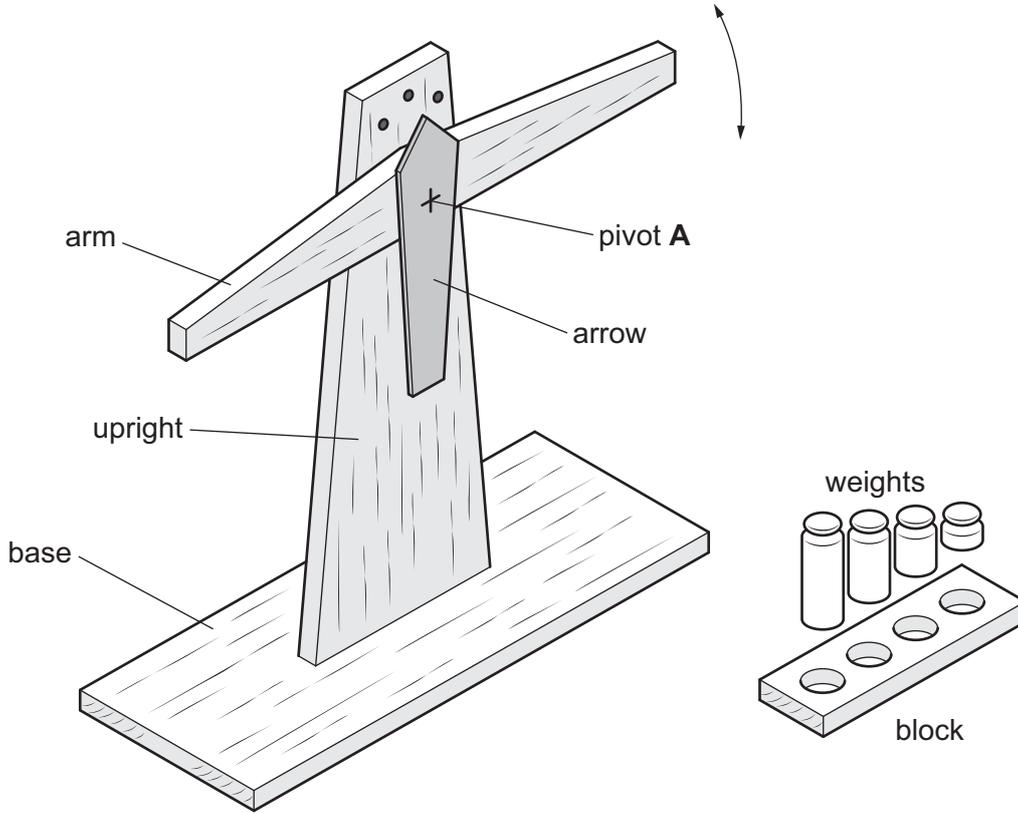

Fig. 11.1
- 11 Fig. 11.1 shows an incomplete design for scales and weights that could be used by children. A parts list gives details of the materials used and their sizes.
(iii) Use sketches and notes to show how the arm, with the arrow attached, could be joined to the upright at pivot **A** and allowed to move as shown in Fig. 11.1.